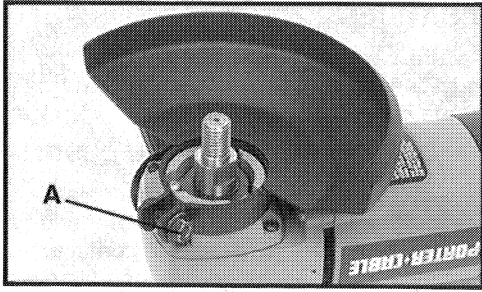

Fig. 4
3. Place safety guard collar onto the gear housing hub of the grinder (see Fig. 4).
5. Firmly tighten clamp nut (A) Fig. 4.